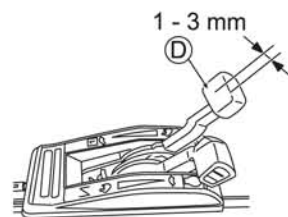

Fig. 27
Adjust the play of Gearshift lever (D) to 1 - 3 mm as shown in Fig. 27.
3. Start the engine and confirm that running speed changes when Gearshift lever (D) is operated.